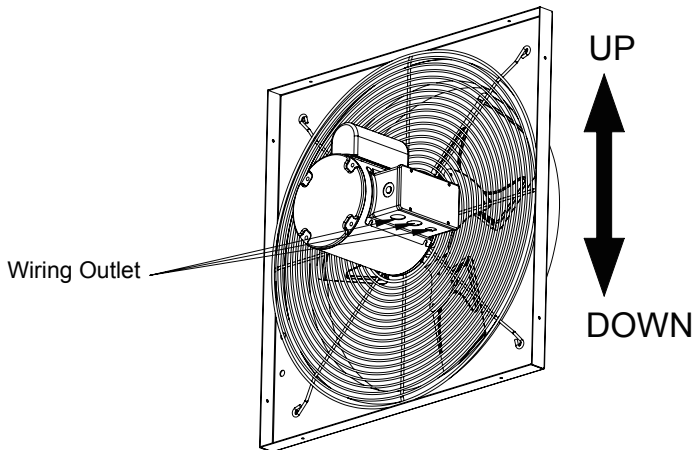

Figure 8 - Wiring Outlet In Moist Environment
**NOTE:** If the fan is used in a moist environment, the wiring outlet must be in the down side position in order to prevent the ingress of moisture into the motor. See figure 8.